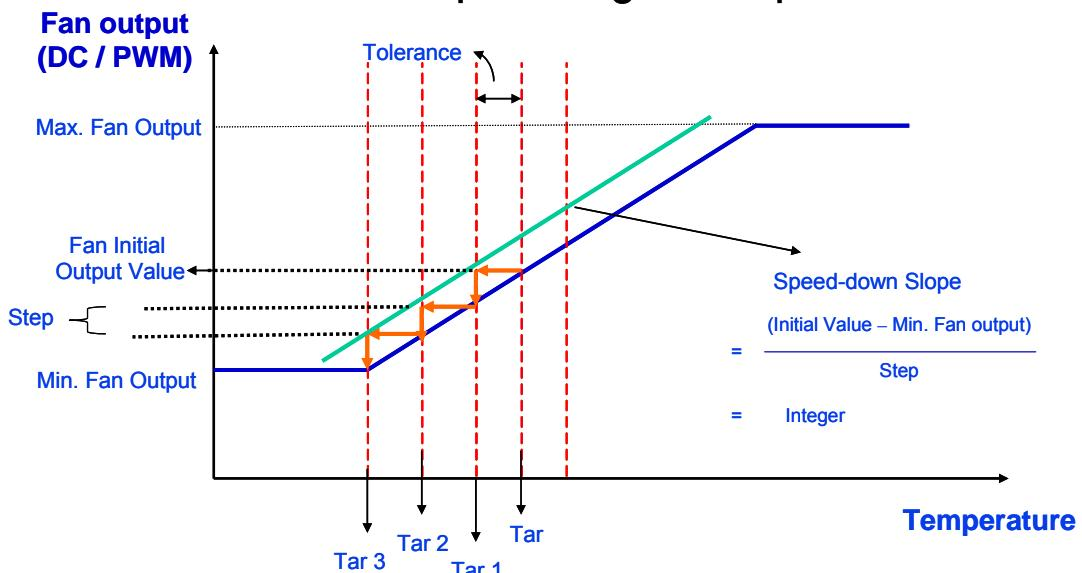

Figure 7.11
- (7) In the case that currently measured temperature goes below (Target Temperature - Temperature Tolerance), which is shown in Figure 7.11, fan speed slows down by one step. "Step" here refers to the value in the CPUFANOUT Output Value Select Register, Bank0 Index03h or Index61h.
- (8) Meanwhile, original Target Temperature dynamically shifts to (Target Temperature - Temperature Tolerance), and new Target Temperature, named Target Temperature 1, is formed. In other words, Target Temperature 1 equals original Target Temperature minus Temperature Tolerance.
- (9) If the currently measured temperature is within the (Target Temperature 1 \pm Temperature Tolerance) then, the fan speed remains constant. Otherwise, fan speed slows down by one step again. Target Temperature then dynamically shifts to (Target Temperature 1 - Temperature Tolerance), and new Target Temperature again, named Target Temperature 2, is formed.
- (10) The fan-slow-down and Target Temperature comparison-then-shift process continue until currently measured temperature locates within ($\text{Target Temperature } X \pm \text{Temperature Tolerance}$), or fan output speed hits its minimum speed.
- (11) Please be noted that “Speed-down Slope” shown in the Figure 7.11 must be an integer. In other words, $\frac{\text{InitialOutput} - \text{Min.FanOutput}}{\text{Step}}$ must be an integer; otherwise, it may lead to register overflow.
- (12) In the case that the temperature is always lower than ($\text{Target Temperature } X - \text{Temperature Tolerance}$), and, for some reason, the fan speed would like to be kept at the minimum speed, Stop Value, instead of being stopped, set register Bank0 12h.bit 4. Set bit 4 to 1, fan speed will always keep at the value set in Bank0 Index 09h when temperature is always below ($\text{Target Temperature } X - \text{Temperature Tolerance}$). Set bit 4 to 0, fan speed will decrease to 0 after a time period set in Bank0 Index 0Dh.